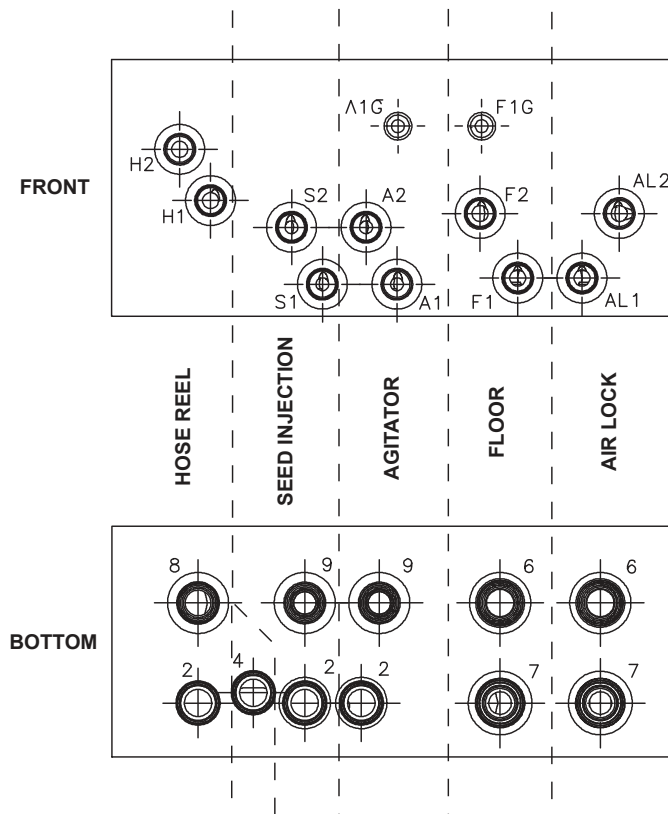

Figure 3
Figure 3 shows the valve block and the different hydraulic circuits. Each circuit, except for the Hose Reel (HR) circuit, is controlled by two valves. On the Floor (F) and Air Lock (AL) circuits, the flow rate is controlled by the proportional valves which can be manually stroked by inserting a small rod or screw driver into the hole in the bottom of the solenoid. The Floor and Air Lock circuits also have a directional valve which can be manually stroked by pressing the red knob on the bottom of the solenoid. The Agitator (A) and Seed Injection (S) circuits are controlled by a three position valve that is actuated by one of two solenoids. These valves can be stroked manually by pressing or pulling on the red knob on the bottom of the solenoid. The Hose Reel (HR) circuit is controlled by a two position on/off valve and its solenoid can only be actuated in one direction by pressing on the red knob on the bottom. The flow rates for the Hose Reel, Seed Injection and Agitator circuits are adjusted using the flow control valves located directly behind the solenoids for their respective circuits.
As material drops into the top of the airlock, the pressure required to cut the material is monitored by the pressure switch located on the forward port of the airlock valve section in the manifold (see figure 3). The switch is normally open. When the airlock motor stalls due to the rotor encountering an object it cannot cut, high pressure is created in the airlock circuit and the pressure switch closes. The amount of time the pressure switch is closed is monitored by a setting in the PLC box. If the switch remains closed for more than 0.5 seconds, the system automatically reverses the rotor by energizing the reverse solenoid. It also de-energizes the floor solenoid, shutting off the floor and the feed roll. The airlock will remain in reverse for approximately 1.5 seconds. The system will then restart the floor and feed roll after allowing the airlock to clear itself.